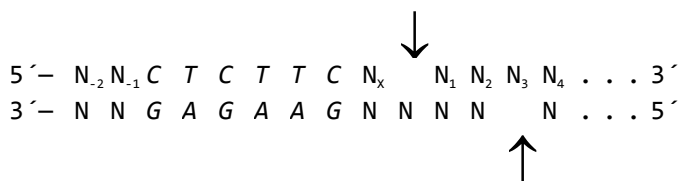

FIGURE 2 Restriction recognition sequence for *Eam*1104 I
1. The 5' terminus of the primers must contain an *Eam*1104 I recognition site. *Eam*1104 I is a type IIS restriction enzyme that has the capacity to cut outside its recognition sequence (5'-CTCTTC-3'). The cleavage site extends one nucleotide on the upper strand in the 3' direction and four nucleotides on the lower strand in the 5' direction (see Figure 2). Digestion with *Eam*1104 I generates termini that feature three nucleotides in their 5' overhangs.
2. A minimum of two extra nucleotides (N_{-1} and N_{-2} in Figure 2) must precede the 5'-CTCTTC-3' recognition sequence in order to ensure efficient cleavage of the termini. The bases preceding the recognition site can be any of the four nucleotides.